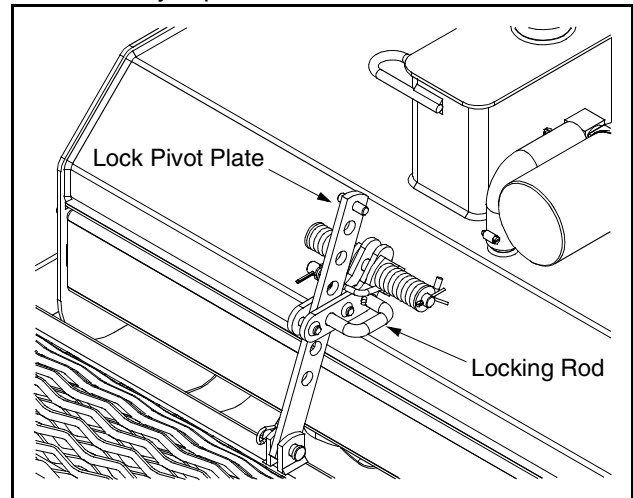

Figure 6
- Pull the locking rod found on the right side of the adjustment bracket assembly outward. See Figure 6.